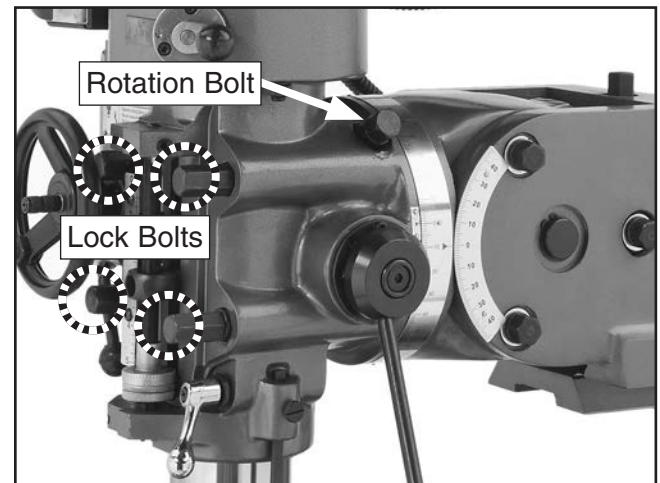

Figure 23. Head rotation controls.
2. Loosen the four lock bolts shown in **Figure 23**.